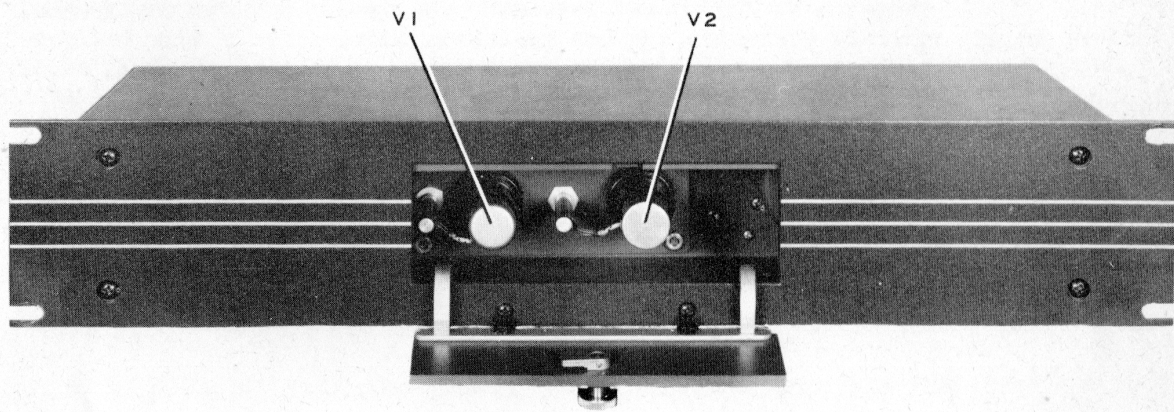

FIGURE 2-1 TYPE 6P-1 BROADCAST PREAMPLIFIER, TUBE ACCESS DOOR OPEN
(3) INSERTING TUBES. - Open the tube access door located in the front panel by turning the door latch button a half turn to the left. Refer to figure 2-1. Insert tubes into their sockets.